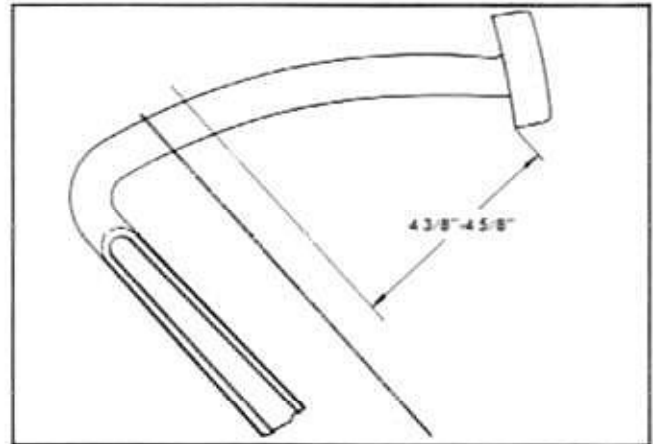

Fig. 5-6 Correct Brake Pedal Height
1. Jack up all wheels, and inspect brake pedal height. Distance from floor mat to underside of pedal pad should be  $4\frac{3}{8}$ "- $4\frac{5}{8}$ " (Fig. 5-6). If necessary, loosen locknut and adjust master cylinder push rod to give correct pedal height. On Synchro-Mesh transmission cars, see that clutch pedal is at same height as brake pedal (adjust clutch pedal height if necessary). **NOTE:** If dust boot is stuck to push rod, it should be loosened before making adjustment. Make sure push rod locknut is tightened securely after making adjustment.